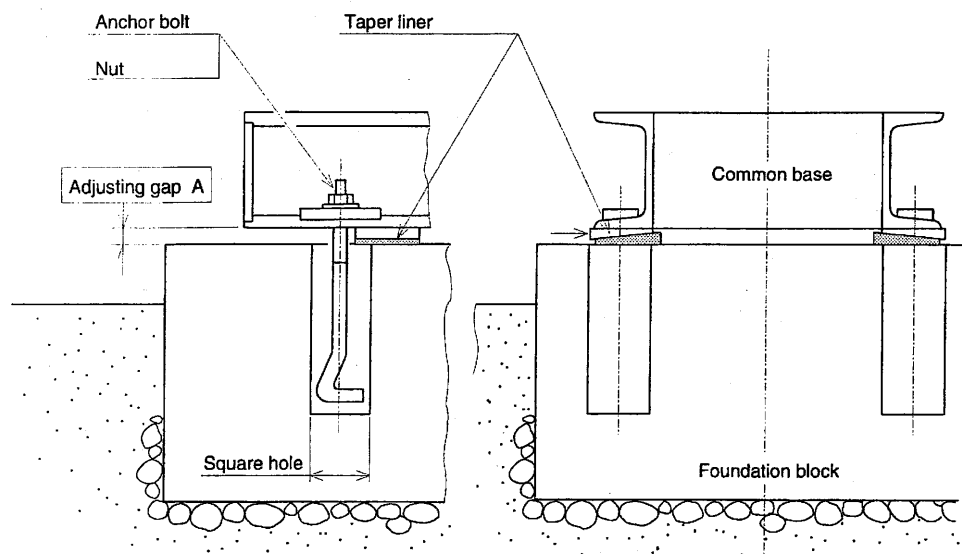

Fig. 11
- (1) First, bury the anchor bolt with adjusting to the bolt pitch or other template of the common bed of compressor (At this time, provide appropriate space of "adjusting gap A" in Fig. 11 so that mortar is poured into the square holes and, later on the setting level can be adjusted easily.)
- (2) Use crushed stones (6-8mm) for the concrete to fix the anchor bolt. (Do not weld the steel bar of the foundation ferro-concrete and the anchor bolt together for stiffening the latter. Some type of bolt may be broken at the welded portion depending on the quality of material.)
- (3) After the foundation concrete has been hardened, put the taper liner in the both sides, adjust the level of common bed, then tighten the foundation nut. (Few sheets of liner are preferable. Thin "shim" of less than 3 sheets)
- (4) When the level has been adjusted, lay grout between the foundation and common base thoroughly.
- (5) Cure the concrete sufficiently before starting operation, again additionally tighten the foundation nut.